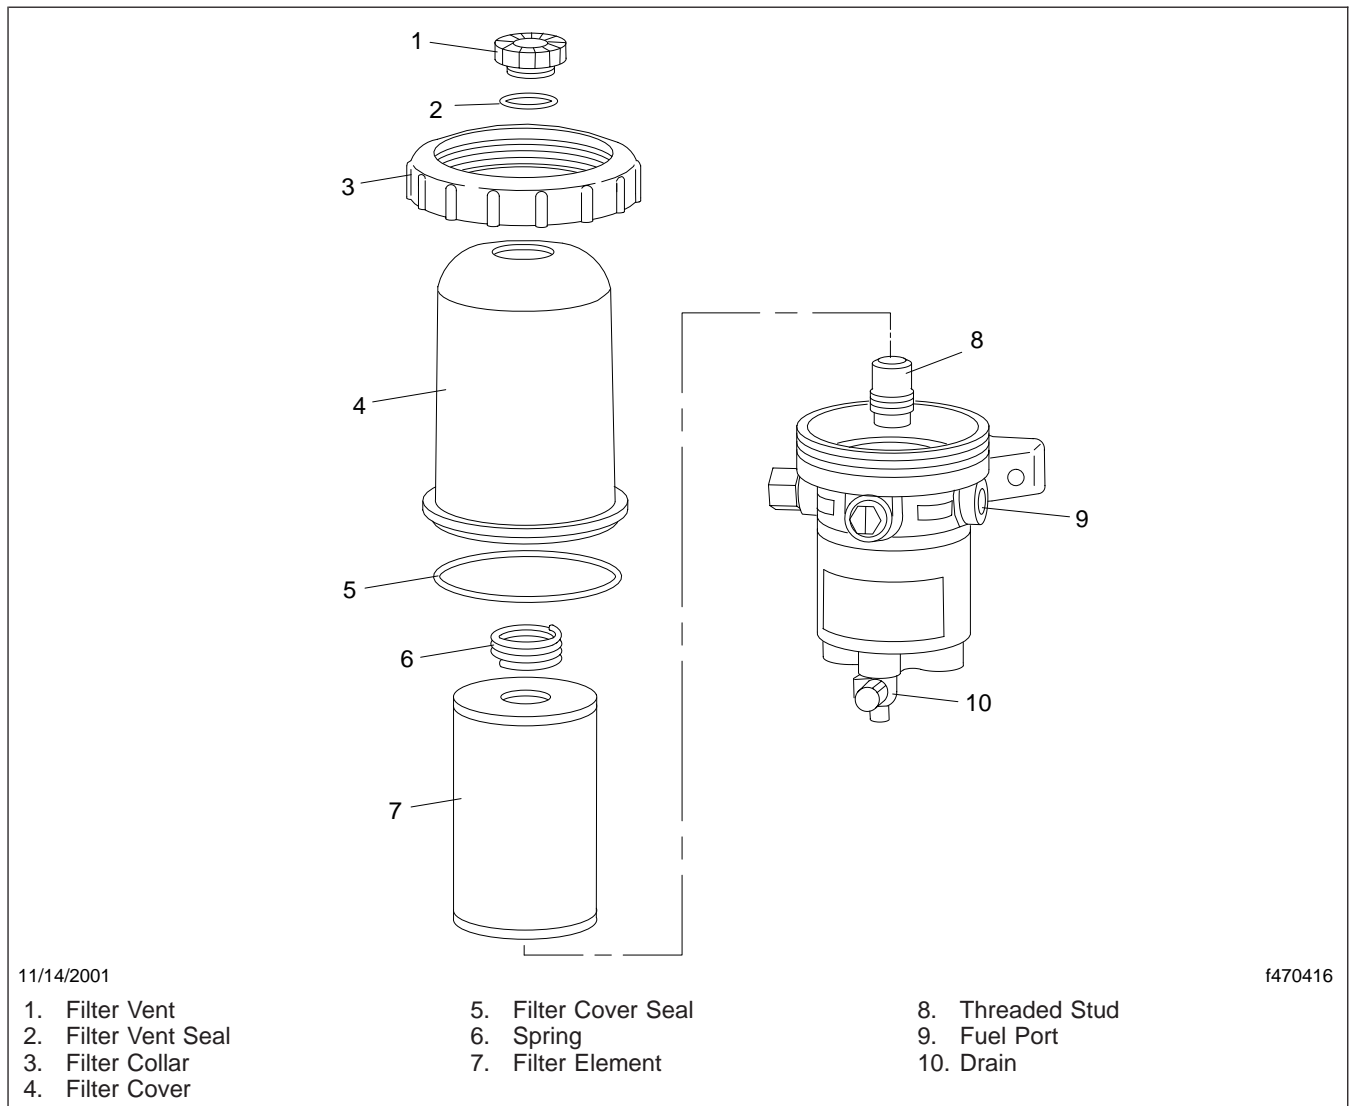
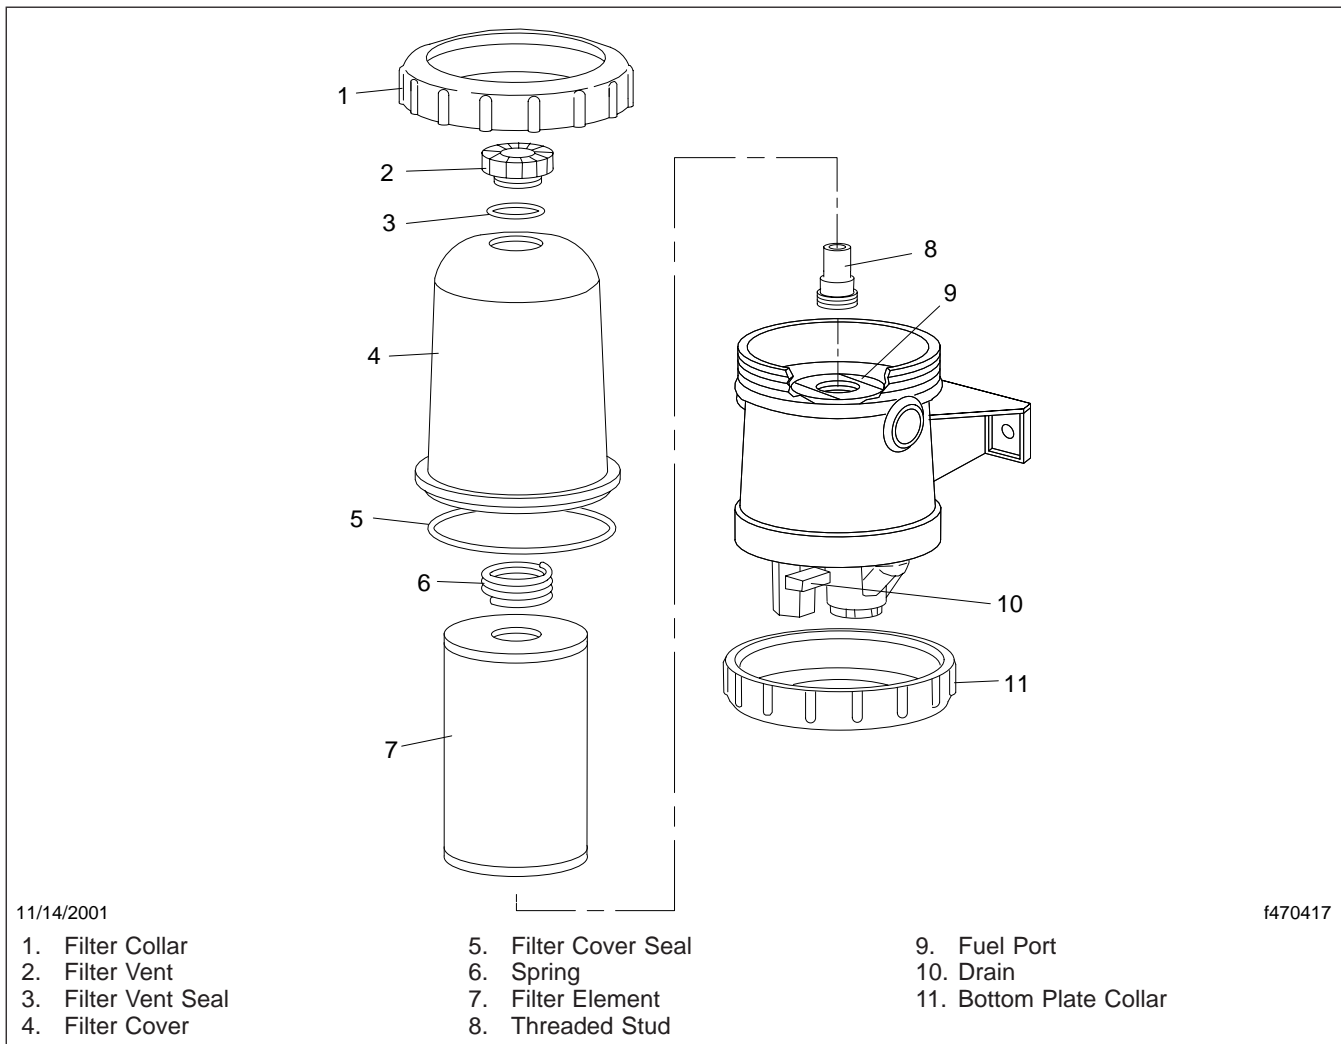

Fig. 13.2, Davco Model 232 and 233 Fuel/Water Separator
Fig. 13.3, Davco Model 382 Fuel/Water Separator
1. Drain the fuel until it is below the level of the filter collar. See **Fig. 13.2** for the model 232/233 fuel/water separator and **Fig. 13.3** for the model 382 fuel/water separator.